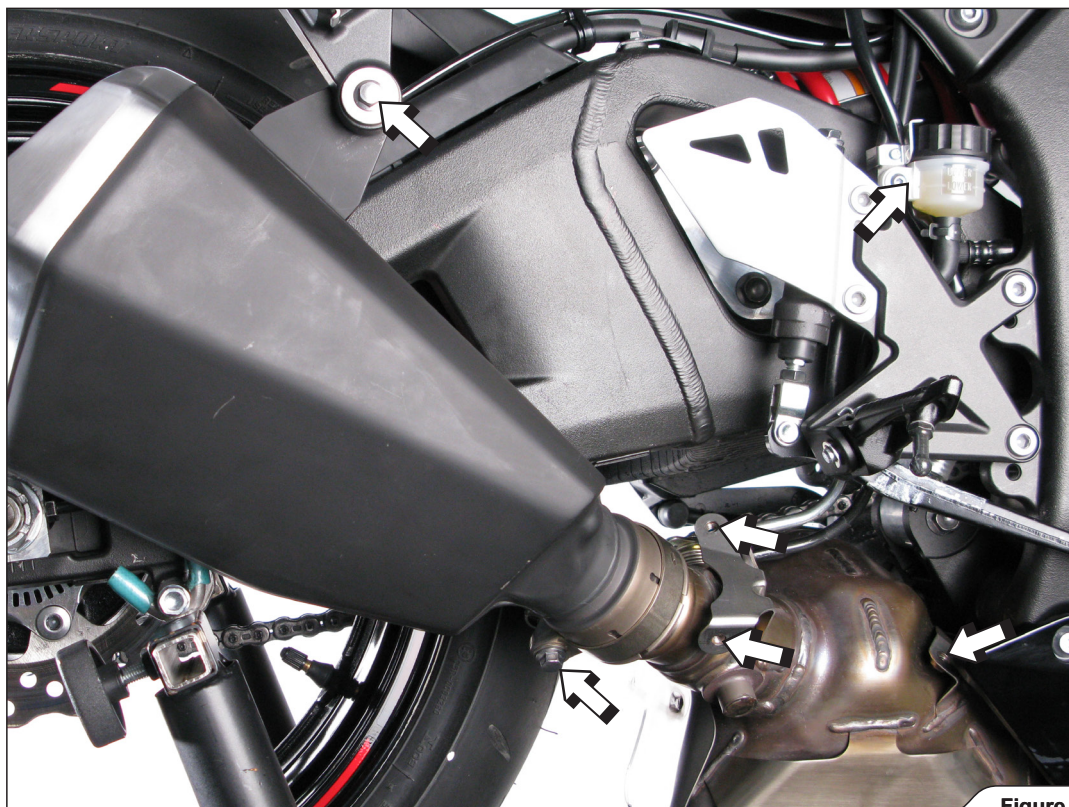

Figure 1
2. Unscrew the original heat-shield. Unscrew marked bolts from the muffler hanging bracket and the metal clamp at the muffler-collector connection. Remove the muffler off the motorcycle (**Figure 1**).